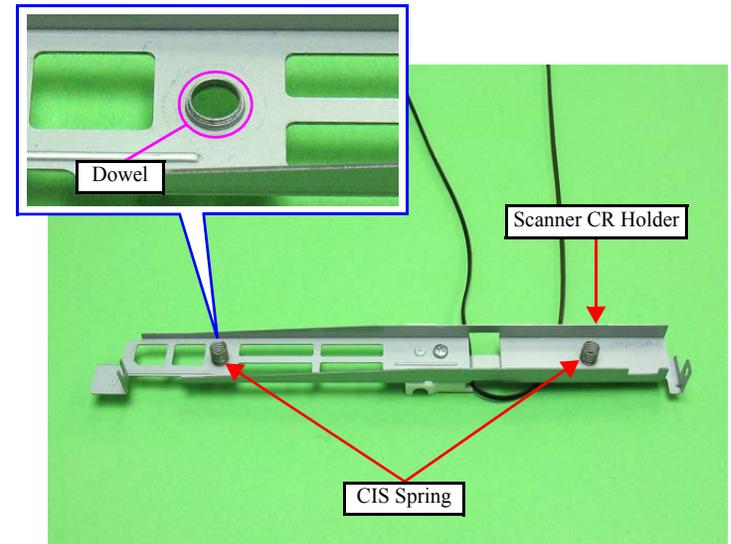

Figure 4-113. Installing the CIS Spring
- Install the CIS springs (x2) to the dowels of the Scanner CR Holder. (See Fig.4-113.)